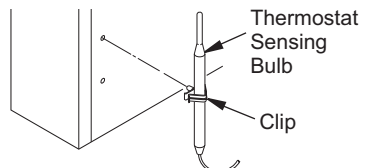

Figure 5 - Attaching Thermostat Sensing Bulb
1. Place clip on thermostat sensing bulb as shown in Figure 5. Clip is provided in hardware package.
2. Snap clip into upper mounting hole as shown in Figure 5. Mounting hole is located on lower left edge on back of heater. Make sure thermostat sensing bulb is pointing up.